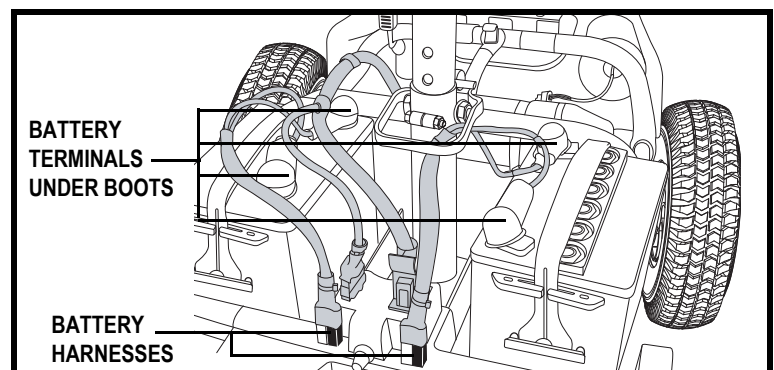

Figure 13. Battery Removal/Installation
3. Disconnect the battery harnesses by pulling them straight up. See figure 13.